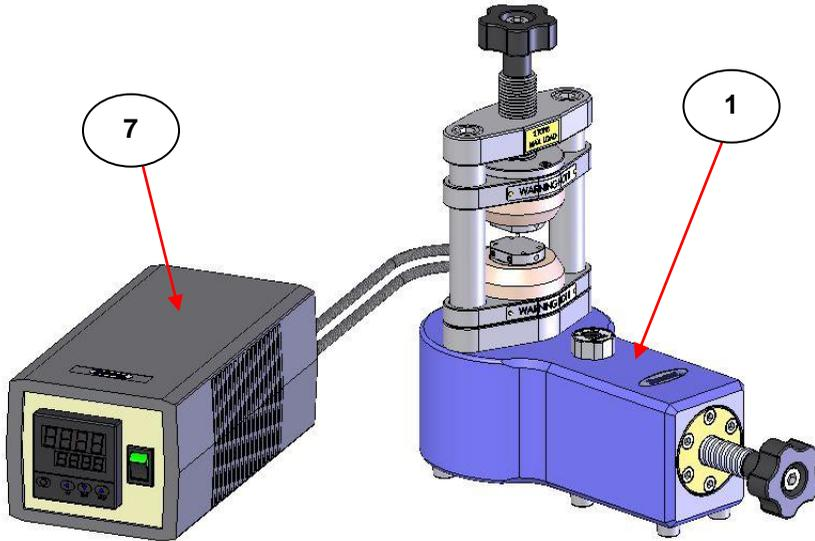

Fig 3. Mini-Film Maker Temperature Controller (7) and Press (1)
Prior to placing the Mini-Film Maker Assembly (3) into the press (1), a temperature is set for the heated pressing surfaces (2) of the press. The temperature is set by selecting a value on the dedicated temperature controller (7) connected to the press (1). (See Fig 3.)